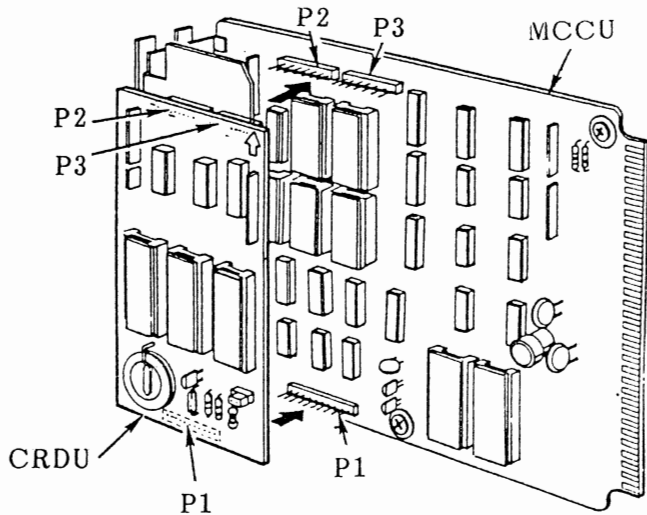

FIGURE 9
06.31 Mount the CRDU on the MCCU if required (see Figure 9).